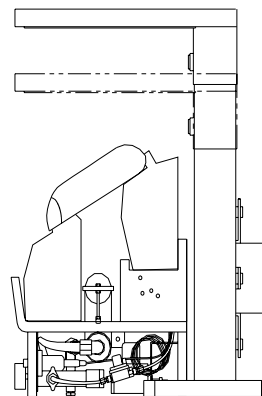

Figure 1
3. The SBF-Series Circulator is adjusted by removing three screws and sliding down to the other holes and reinserting the three screws. This should only be done if the fireplace is shorter than the Circulator. Install the circulator in the fireplace with the discharge duct facing the room. If the burner unit is already installed, tilt the circulator forward so that the legs are perpendicular to the floor. After the circulator legs are behind the burner unit, rotate the circulator to its normal position (See Figure 1).